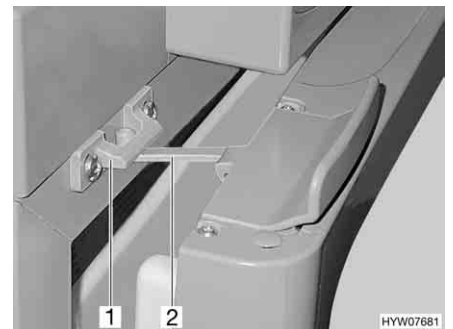

Fig. 236 Refrigerator door in ventilation position (Thetford)
- Open the lock (Fig. 236,2) and snap it into the locking catch (Fig. 236,1). The refrigerator door will then stay slightly open.